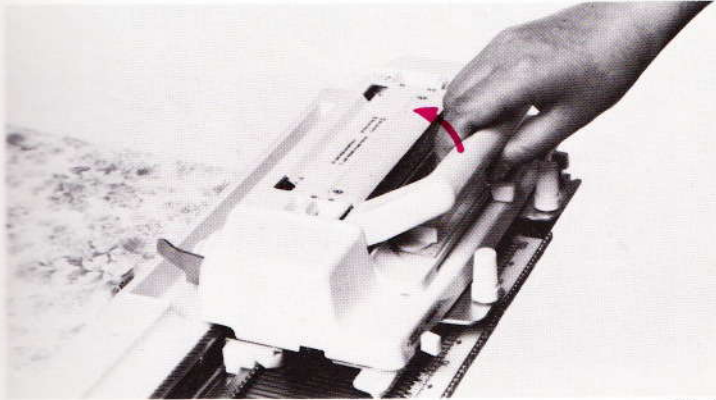

Fig. 6
- Raise the handle of the carriage until it clicks into place (fig. 6).